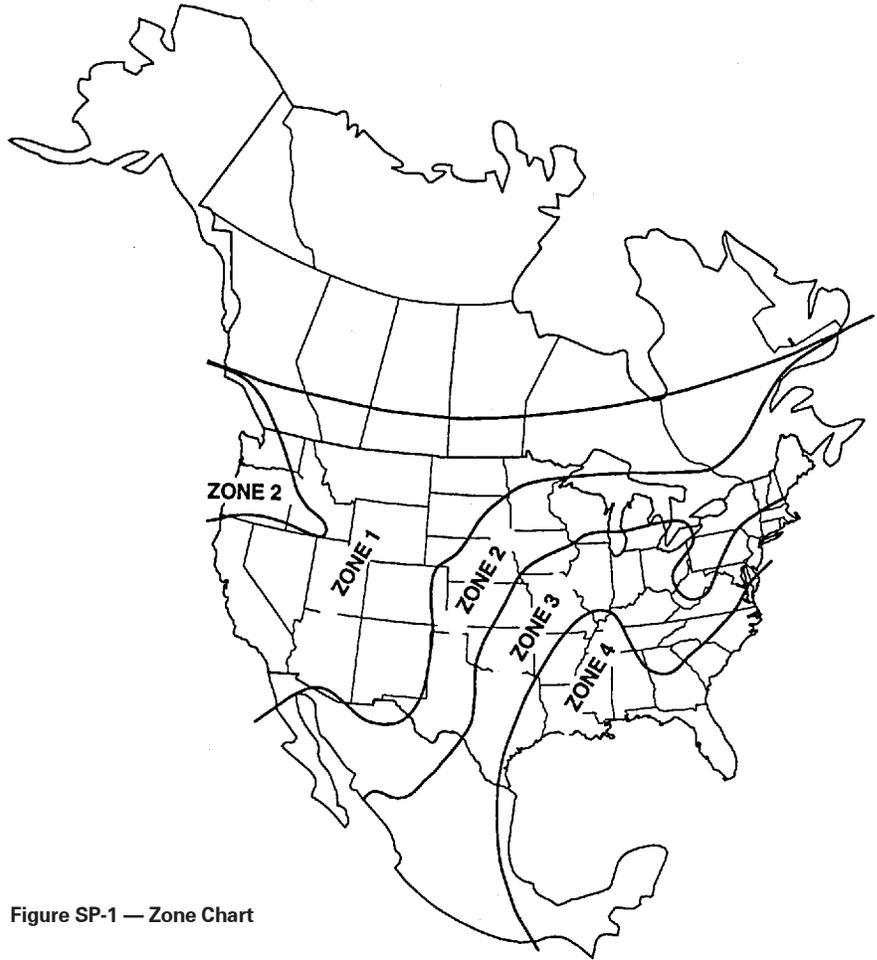

Figure SP-1 — Zone Chart
- Using Figure SP-1, choose the geographical zone in which the unit is to be installed.